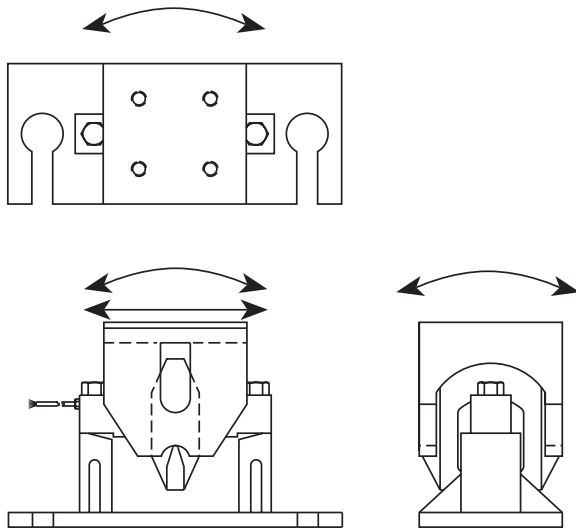

Figure 2-26
Figure 2-26 illustrates the TSA module. Unlike the double-ended beams used for the RL1600 or EZ Mount 1, the TSA module should be mounted with the greatest expected movement aligned with the longitudinal axis of the load cell. In a truck scale, this is normally in the direction of truck travel.
- 3) The module is free to move in the directions indicated in Figure 2-26.